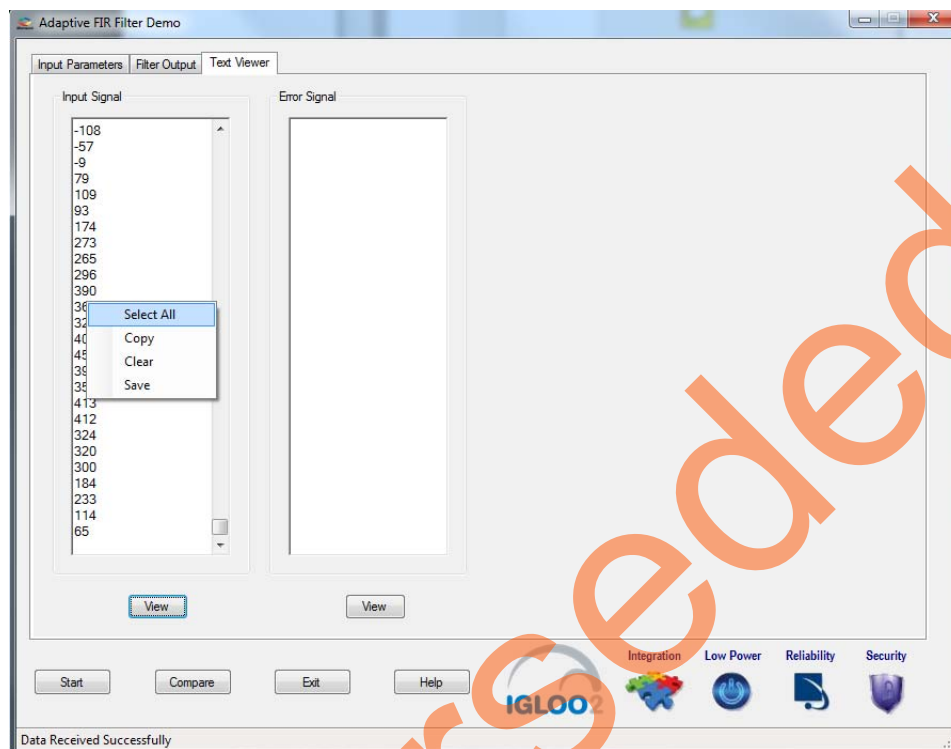

Figure 27 • Text Viewer - Input Signal Save Option
10. To save the Input Signal as a text file, right-click the Input Signal window. The Input Signal window displays different options as shown in Figure 27.